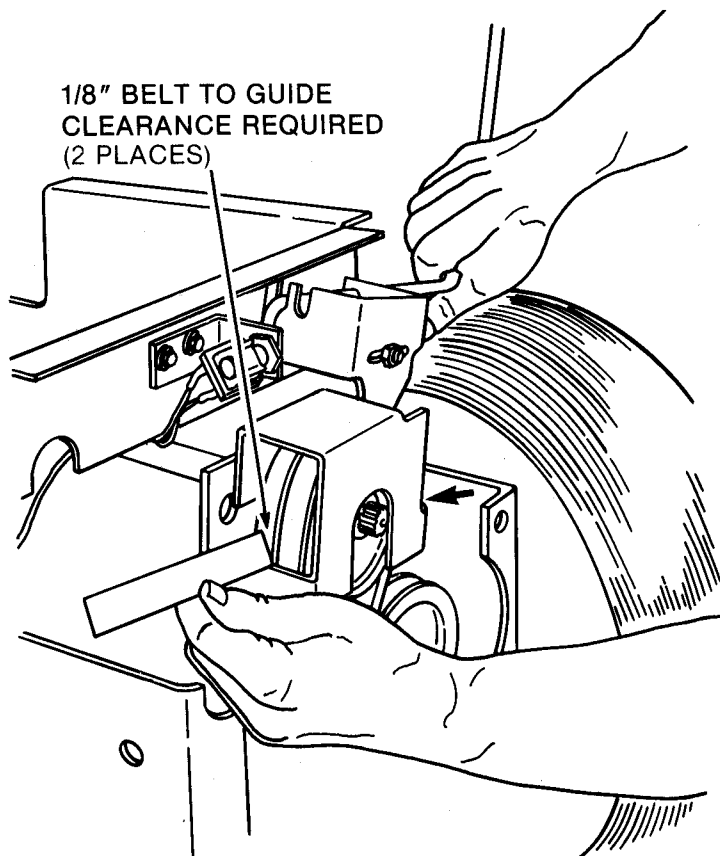

FIG. 6 - CHECK UPPER BELT CLEARANCE
Step 4: Install upper belt guide by loosening the top two flange nuts on bearings retainer of upper P.T.O. shaft. Slide upper belt guide under heads of flanged bolts and retighten nuts. **Note:** With P.T.O. idler engaged belts should clear belt fingers by 1/8 inch. Reposition upper belt guide if necessary(Fig. 6).